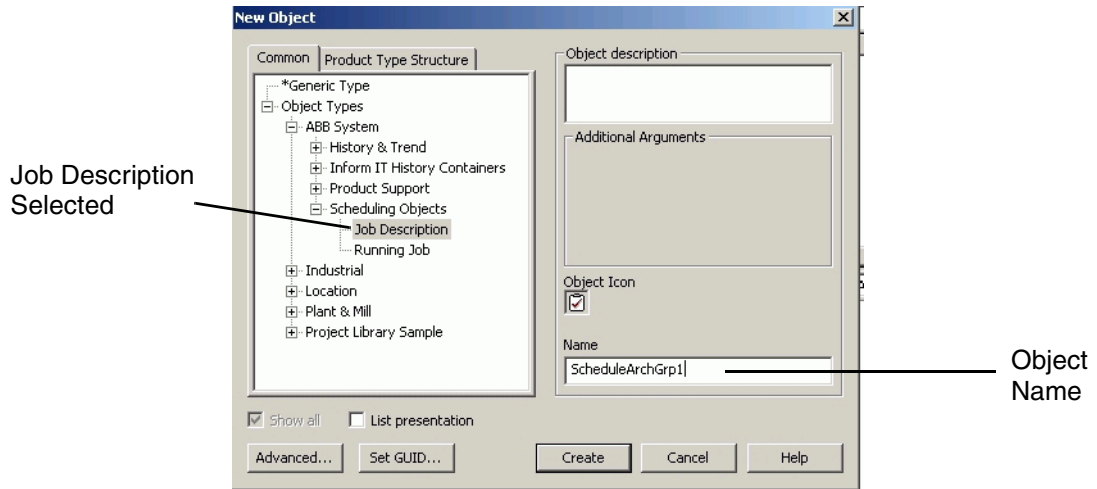

Figure 242. New Object Dialog
3. Browse to the Scheduling Objects category and select the **Job Description** object (Object Types>ABB Systems>Scheduling Objects>Job Description), Figure 242.